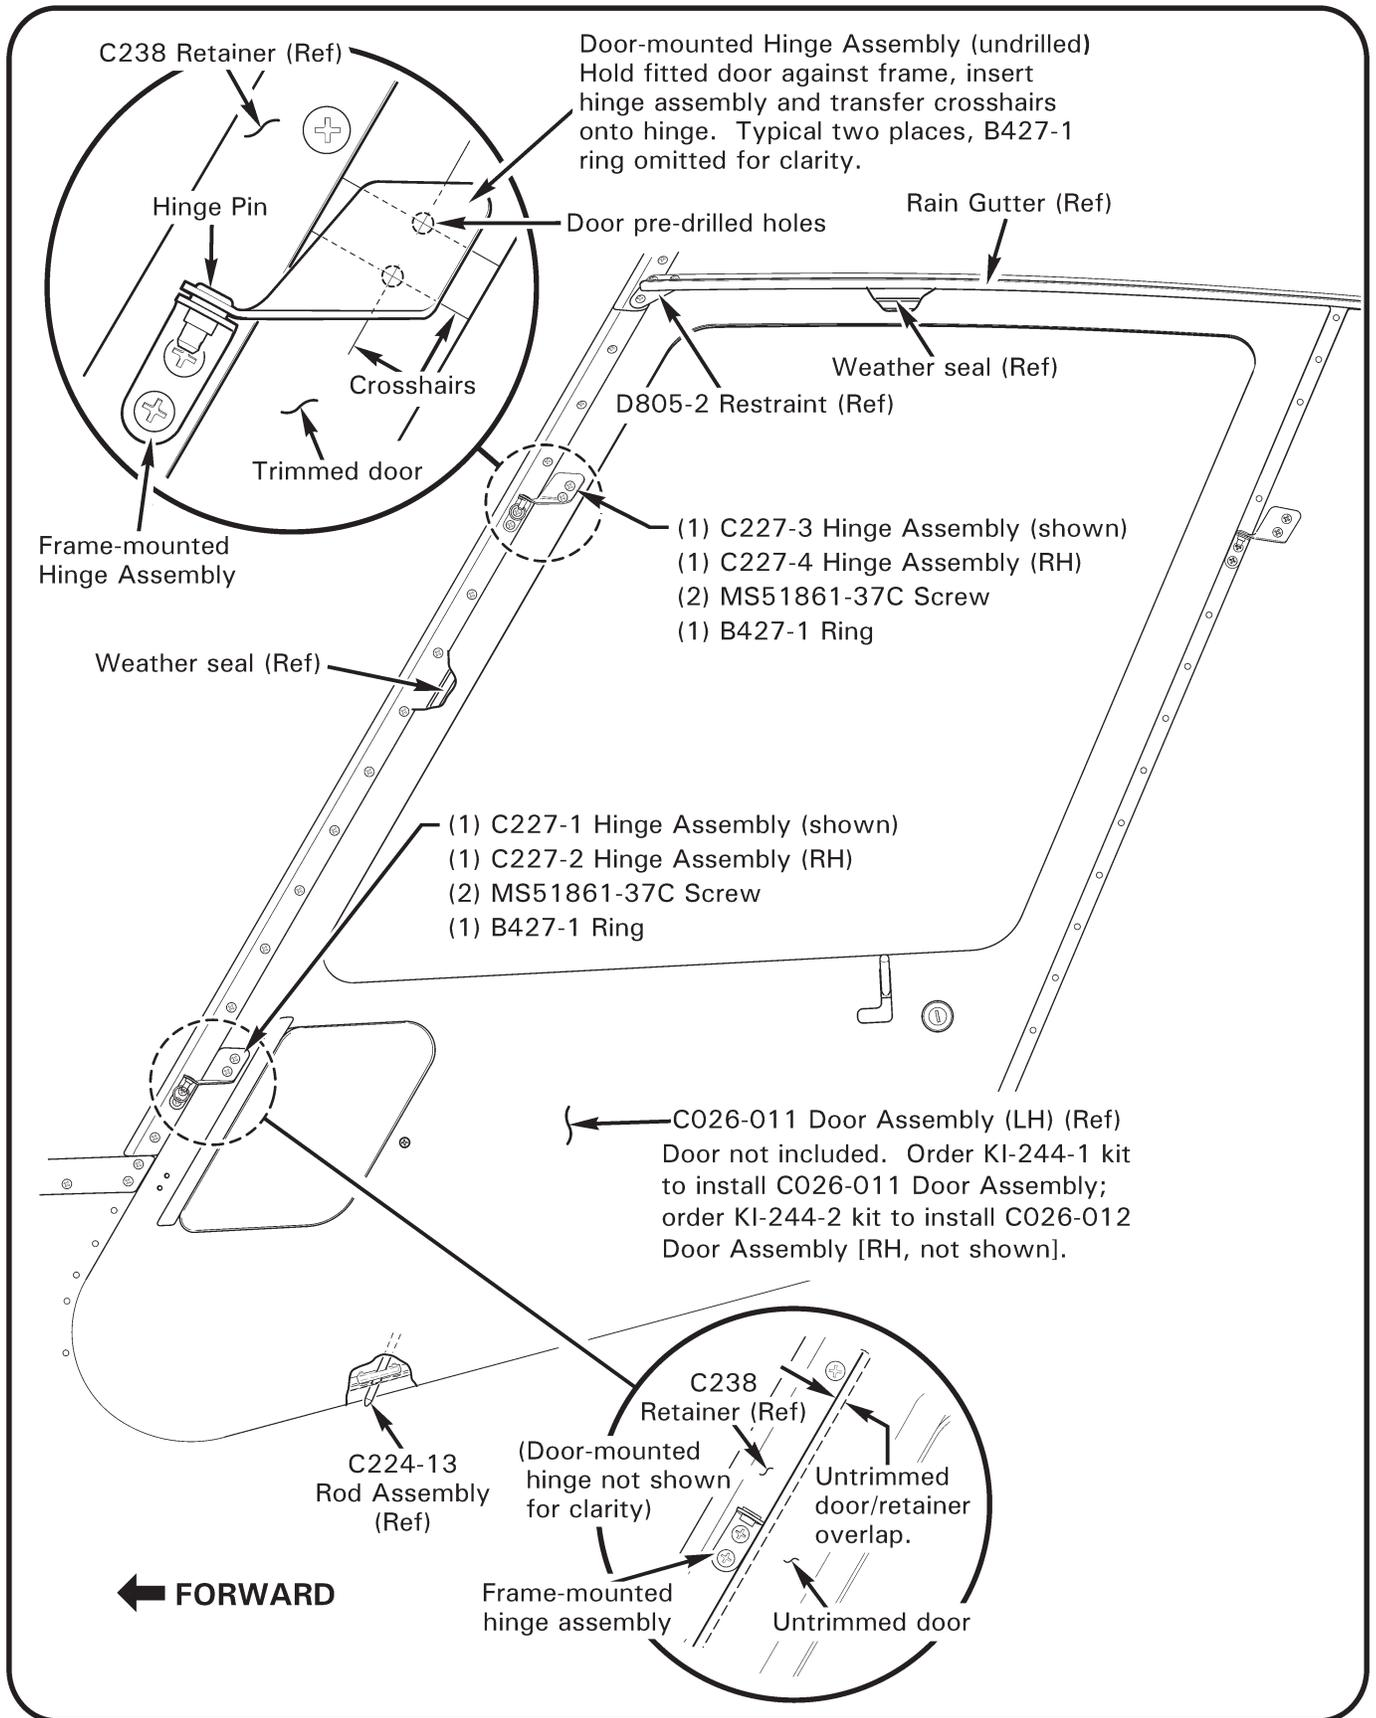

FIGURE 1 (VIEW LOOKING INBOARD)
1. Refer to Figure 1. On applicable side of helicopter, remove forward two screws securing D805-2 restraint, loosen aft screw, and pivot restraint up and away from door opening (remove sealant as required). Apply masking tape on surfaces of C238 retainer, new C227 hinge assemblies, and new C026-011 or C026-012 door assembly (not included), to mark with soft pencil.
16. Refer to Figure 1. Pivot D805-2 restraint down into original position. As required, add or remove NAS1149FN832P washers underneath restraint at retaining screws to create a 0.01–0.05 inch gap between restraint & door; length of screw may be adjusted for one thread minimum beyond nut. Verify security.